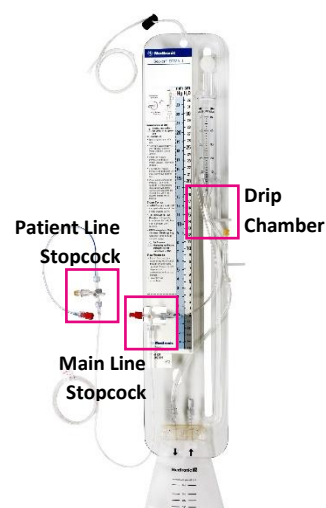

Figure 1
Medtronic has received customer complaints reporting cracks and/or leaks on the stopcock of Becker and Exacta EDMS devices. On these devices, the stopcocks may be in three different locations in the EDMS, depending on the specific system configuration (see Figure 1 for an example Becker system).
- If the system develops cracks or leaks during use, replace it using sterile technique and return the damaged system to Medtronic. If the leak occurs with the Patient Line Stopcock (see Figure 1), consider application of a hemostat or other clamp to the proximal patient line while coordinating a replacement if occlusion of the patient line does not create a risk to the patient.